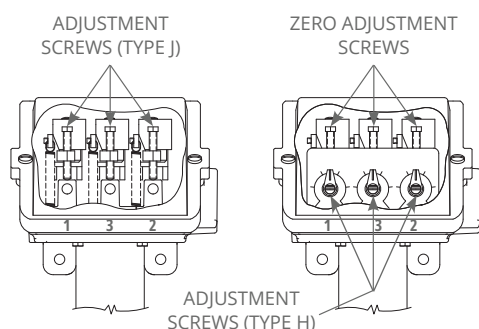

Figure 2
Type “J” controls have an internal screw adjustment and type “H” have internal calibrated dial and pointer (see Figure 2).
- Adjust set point by turning adjustment screw clockwise to raise set point, or counterclockwise to lower set point (see Figure 2). When making adjustments, do not exceed the proof pressure rating on nameplate as this may cause a shift in set point.
- Adjust set points by turning adjustment screw clockwise to raise set points, or counterclockwise to lower set points (see Figure 2). When making adjustments, do not exceed the proof pressure rating on nameplate as this may cause a shift in set points.
- Adjust each set point by turning adjustment screw and pointer to desired value on scale (see Figure 2). Scale division for models are noted in product datasheet.
- If recalibration is required, connect device to a calibrated pressure gauge. Follow instructions in step 2 until switch(es) transfer. If the set point(s) chosen on the dial(s) does not match the pressure gauge, turn each zero adjustment screw (see Figure 2) clockwise to raise the pressure or counterclockwise to lower the pressure until the dial(s) and gauge match.
- 2 Adjust each **fall** set point by turning the adjustment screw clockwise to raise each set point or counterclockwise to lower each set point (see Figure 2). The **fall** setting is constant.